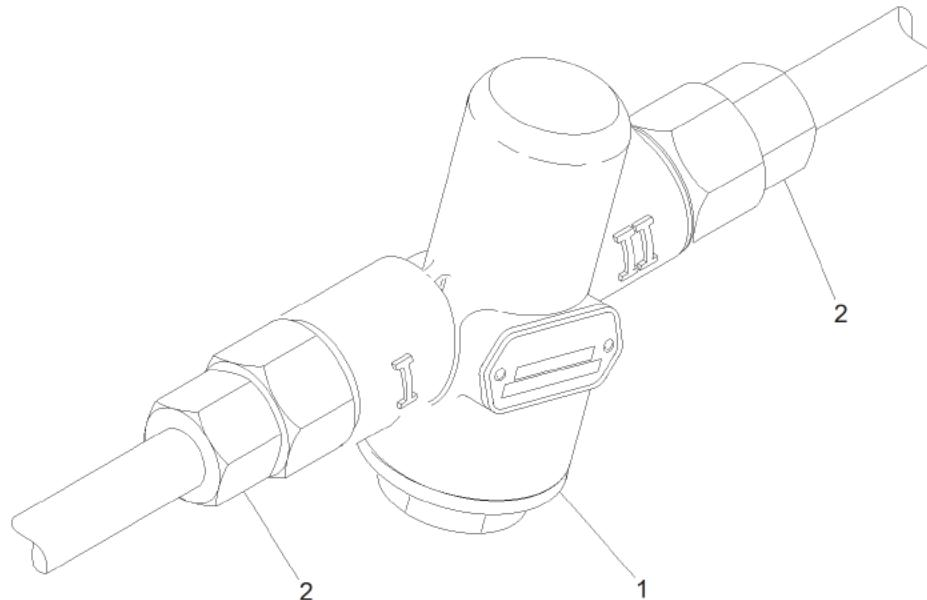

Figure 3-5: LA2100 Air Filter Inspection
1. Check LA2100 air filter (1) for obvious visible damage such as dents, scratching, scoring, corrosion, or missing parts. If excessively damaged or missing parts, replace LA2100 air filter. See Figure 3-5.
2. With brake system pressurized, apply leak detector to pipe connections (2) of LA2100 air filter (1).